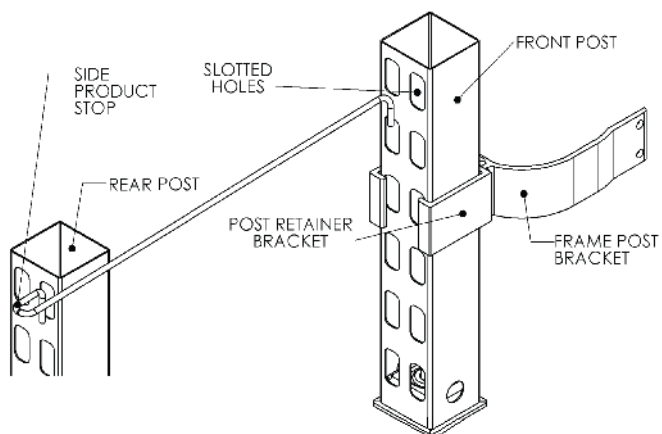

Figure 36
2. Install side product stops (as required). Insert right angle ends of product stops into front and rear post slots. Refer to Figure 36 ,